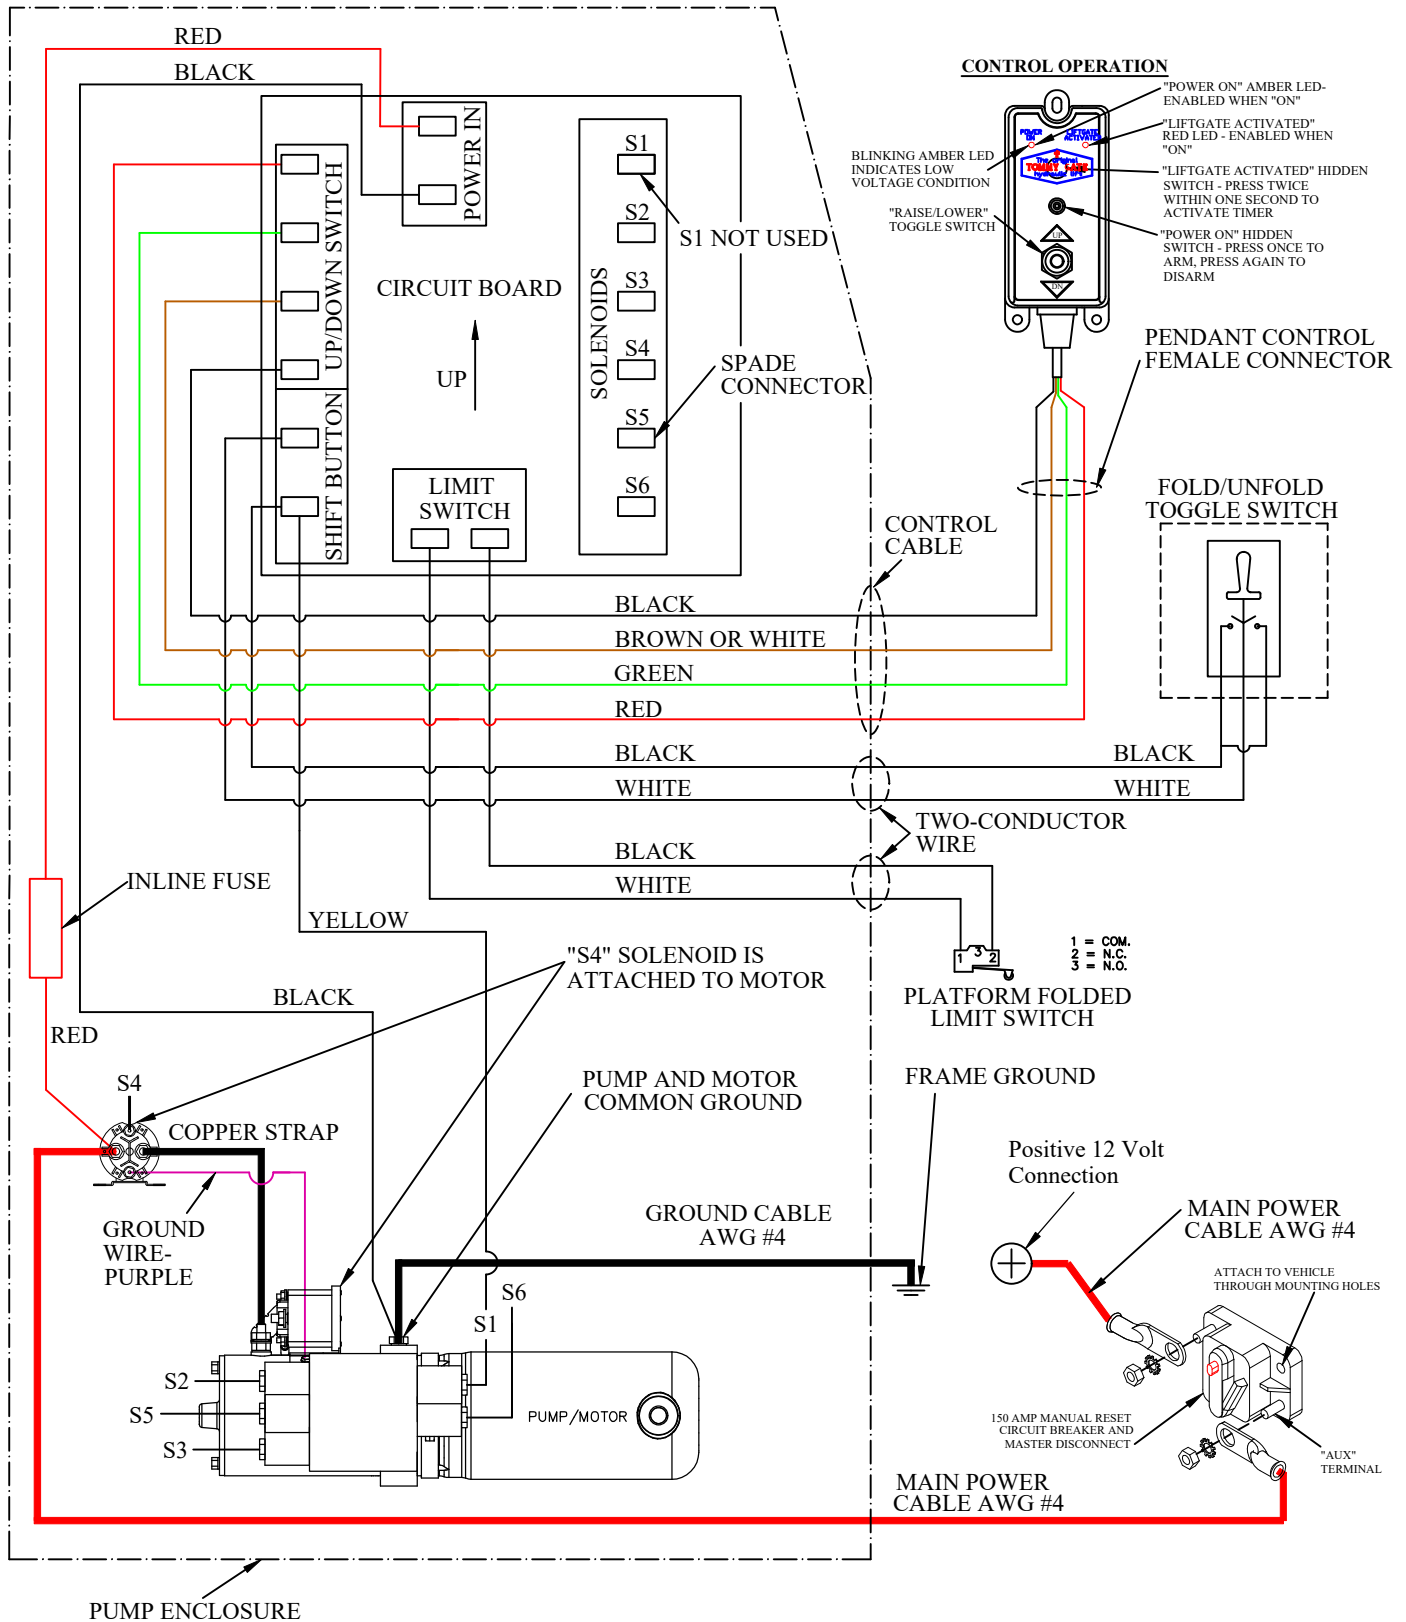

Figure 18: Wiring diagram.
Note: Follow the *Tommy Gate Recommended Electrical Wiring Guidelines* and wiring diagram (Figure 18) in the following steps.
12. **Connect** the circuit breaker (Figure 18). Use the supplied heat shrink tubing.